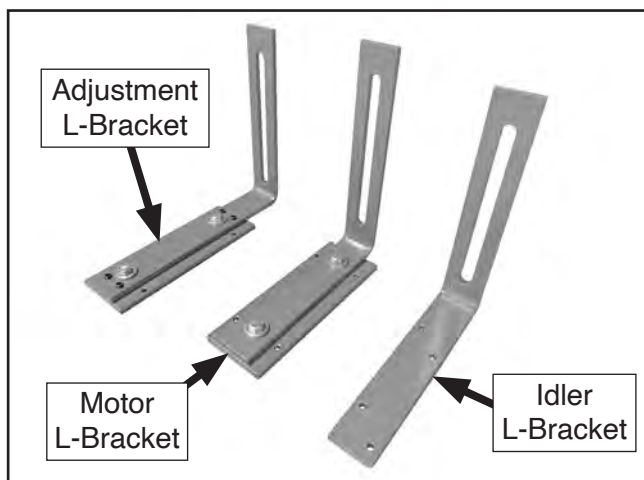

Figure 23. L-bracket identification.
3. Identify which L-bracket is which before continuing (see **Figure 23**).